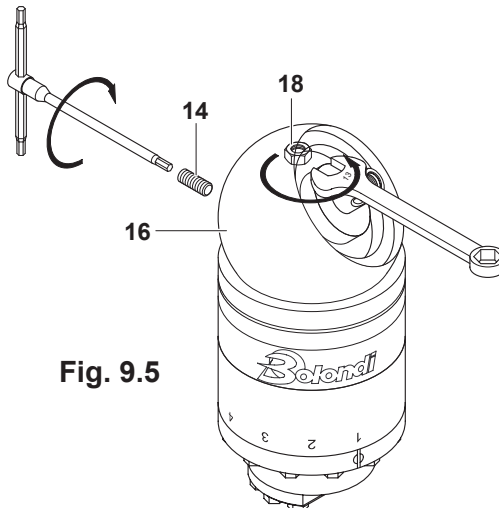

Fig. 9.5
- 9.3.3) Using a 5 mm. hex spanner undo and remove the dowel pos.14 and then remove the cap pos.16 (Fig.9.5).